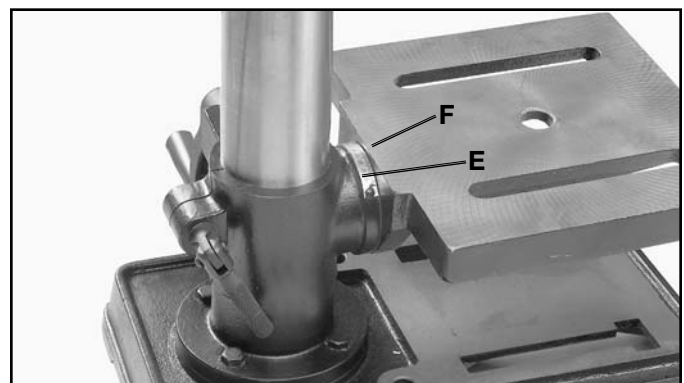

Fig. 31
5. A tilt scale (E) Fig. 31, is provided on the table bracket casting to indicate the degree of tilt. A witness line (F) is also provided on the table to line up with scale (E).